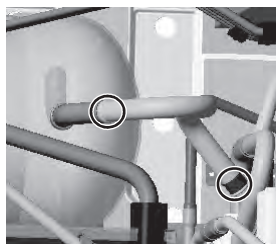

Figure 11
- (6) Remove the braze at the two areas on the accumulator inlet pipe. (See Figure 11.)